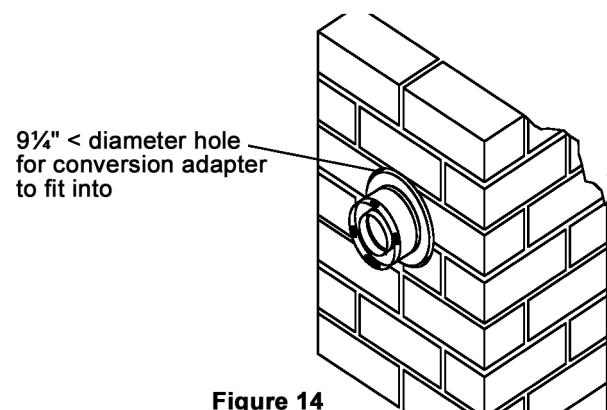
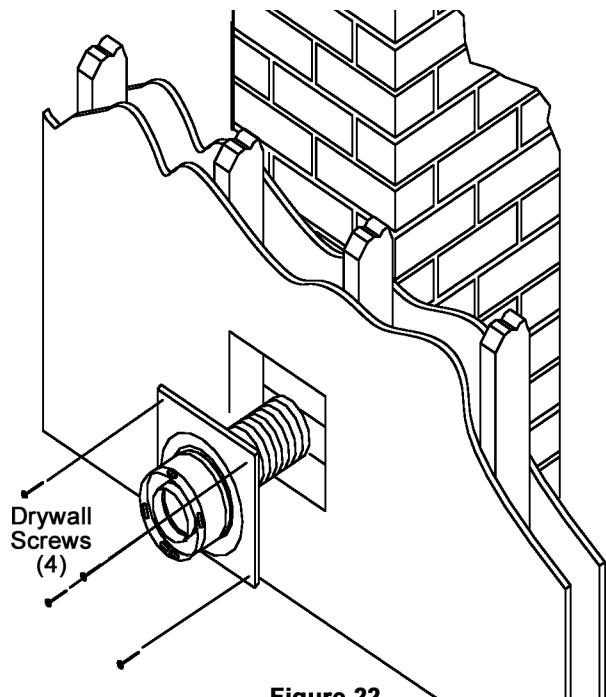

Figure 14
Figure 22
2. At the center point of the penetration, cut a $9\frac{1}{4}$ " to 10" diameter hole in the masonry. This allows the black conversion adapter to fit inside the masonry. See Figure 14. If you have a concealed masonry chimney, you may have to cut a clear 10" square opening in the interior preceding wall and only need a 8" diameter opening in the masonry. Some walls may have to be reframed around the 10" opening. Center the 10" square opening around the 8" round opening. The square opening provides the right amount of clearance to combustibles when cut in the proper location. See Figure 22.